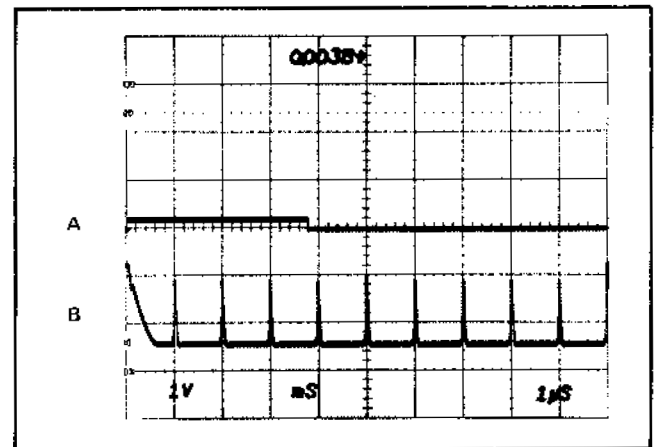

Fig. 1-4. Waveform display of: (A) Delay Interval Pedestal; (B) input signal.
**Delay-Interval Pedestal.** This output provides an on-screen display of the approximate delay interval. To view the pedestal display, the 7D11 must be installed in a vertical plug-in compartment and be selected by the mainframe Vertical Mode switch. The position of this display is fixed near the vertical center of the graticule area. The Delay-Interval Pedestal display is shown in Fig. 1-4(A). The input signal, shown in Fig. 1-4(B), is comprised of one- and ten-microsecond time markers. The 7D11 is set to trigger on the ten-microsecond markers, and to generate a 0.0038-millisecond delay time.